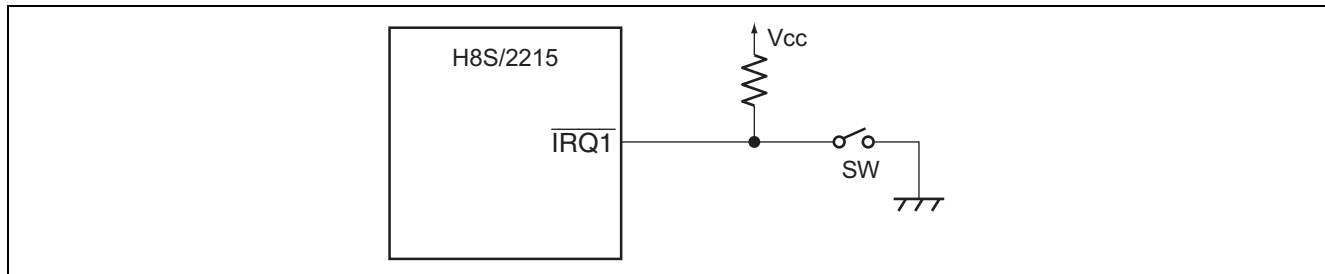

Figure 1 Example of Switch Connection to $\overline{\text{IRQ1}}$ Input Pin
3. Figure 1 shows an example of the switch connection to the $\overline{\text{IRQ1}}$ input pin.
1. Figure 1 shows a block diagram of the interval timer, and the following is the description for the block diagram (this block diagram is the same as that of the watchdog timer):